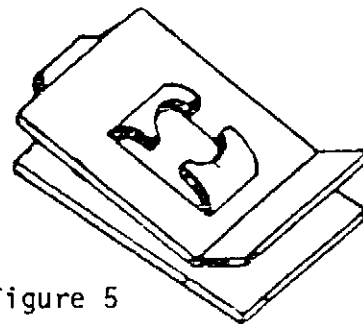
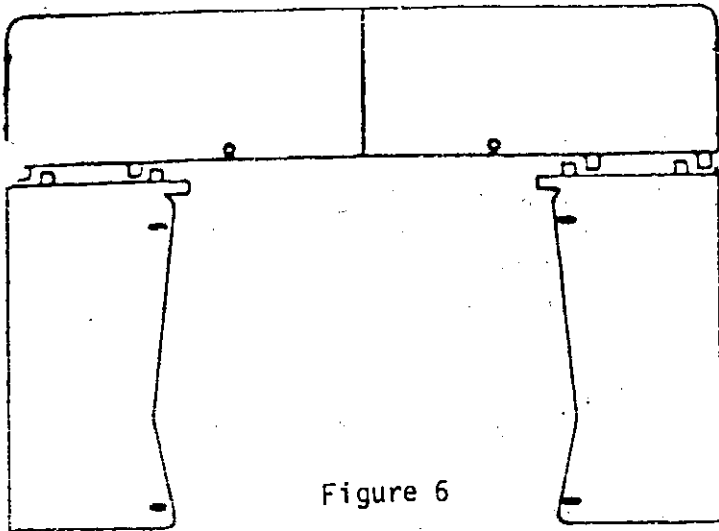

Figure 5
Figure 6
8. Using two 1/4" x 1/2" bolts with flat washers, bolt the side shrouds on. Do not tighten bolts. Slide one "tinnerman nut" (illustrated in Fig. 5) over each hole in the Top Shroud Angle located on top of the insert. Position the top shroud with the tabs on each side shroud. Install two 1/4" x 3/4" screws through the holes in the top shroud and into the "tinnerman nuts" previously installed. Adjust the side shroud to line up with the top shroud. Tighten side shroud bolts, then tighten top shroud screws. Refer to Figure 6.